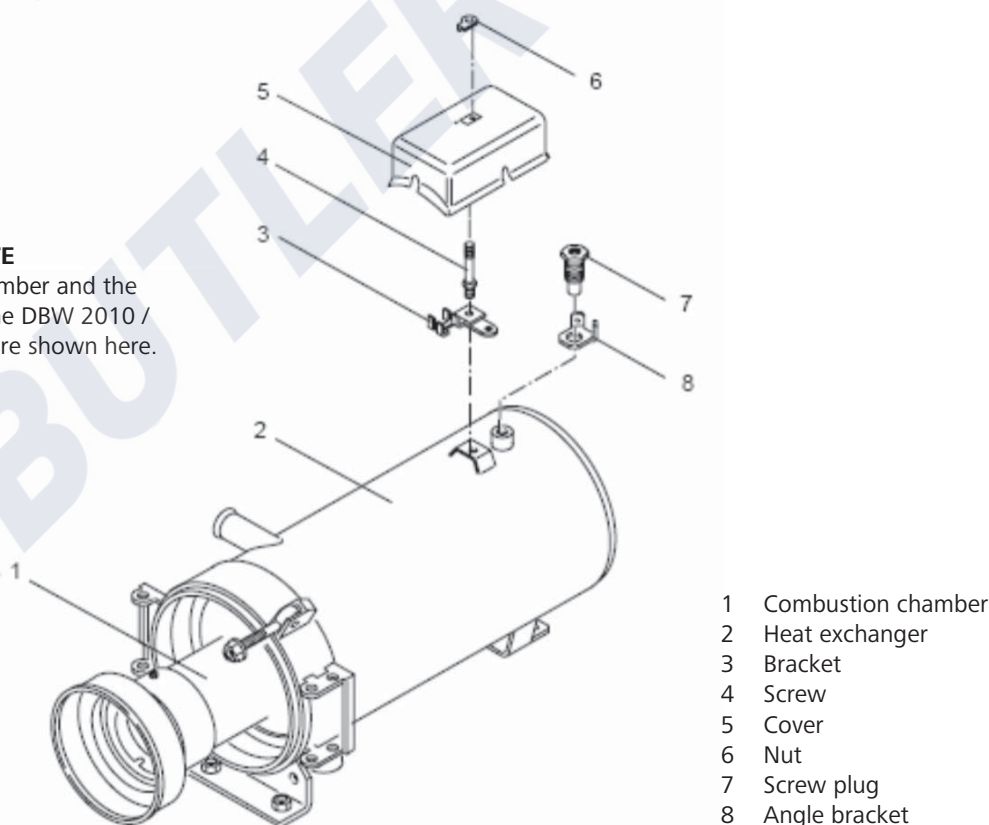

Fig. 915 Replacing combustion chamber and heat exchanger
2. Pull combustion chamber (1, Fig. 915) out of the heat exchanger (2) and remove it.
1. Slide combustion chamber (1, Fig. 915) into heat exchanger (2) up to stop.
1. If necessary, remove nut (6, Fig. 915) from cover (5) and take off cover and remove.